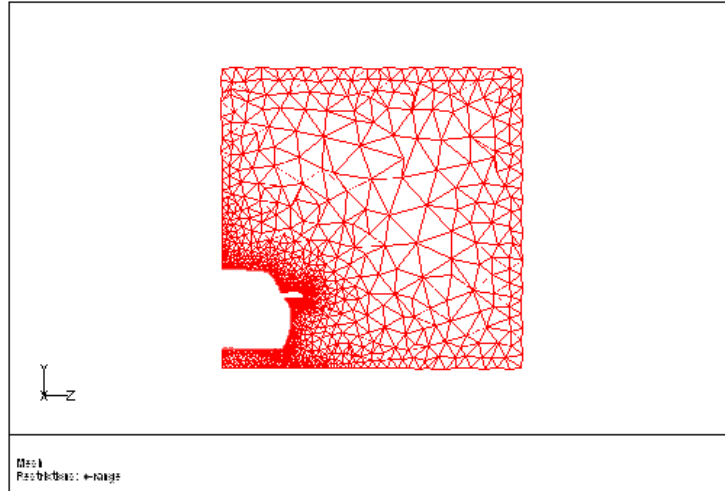

Figure 2.13: Slide of Cells at  $X = -0.37$
- (a) Display the mesh on a slide through the mirror and the car ( $x = -0.37$ ). See Figure 2.13.